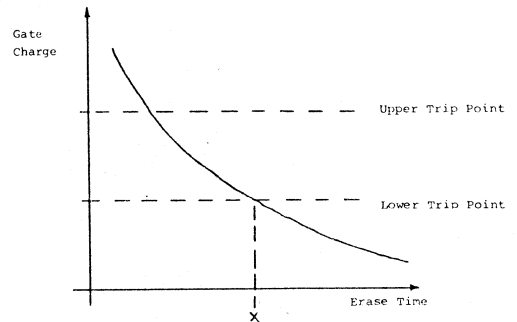

Figure 4 Charged floating gate characteristics with respect to erase time.
The actual time required for erase depends on such variables as the amount of charge stored, UV transmissivity of the quartz lid, distance from the source, etc. From the users point of view, the main variables of concern are distance from the source and the light source itself. It is recommended that the lamp be placed $1/2 - 1$ inch from the chip. Each lamp should be calibrated, a worse case erase time (X) established then overerase by a factor of two, as indicated in Figure 4 above.